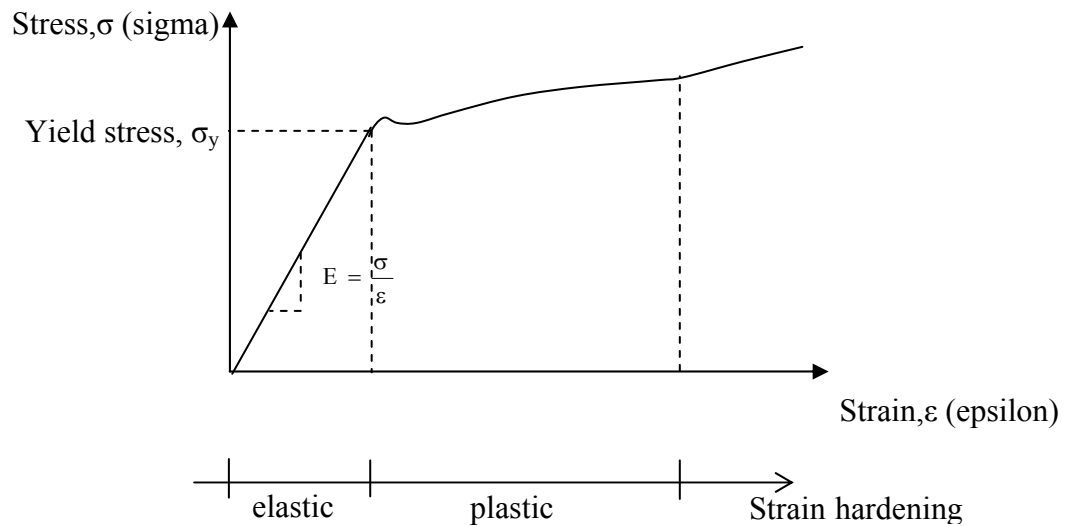

Figure 6.1: The stress strain relationship of steel
- ✚ The characteristic stress-strain diagram for a steel material is shown in *Figure 6.1*. In structural analysis, the steel structure passes three distinct stages in the stress strain relationship as shown in *Figure 6.1*. When the applied stress is proportional to the strain, a material is said to obey Hooke's Law. There is a linear relationship between the stress and strain; the steel is in the elastic behaviour. The material will return to its original undeformed shape if the load is removed. The slope is called the modulus of elasticity,  $E$  or Young's Modulus.
- ✚ In the second stage, as the stress increased further the plasticity spread inwards until an entire cross section of structure has yielded at point 1 as shown in *Figure 6.1*. The yielded section creates a *plastic hinge* and lost all resistance to rotation. At this stage, the steel attain its maximum possible moment capacity called the *plastic moment*,  $M_p$ . The development of the hinge caused a redistribution of the bending moments across the structure. The redistribution enables the structure to carry more loads after first hinge has formed.